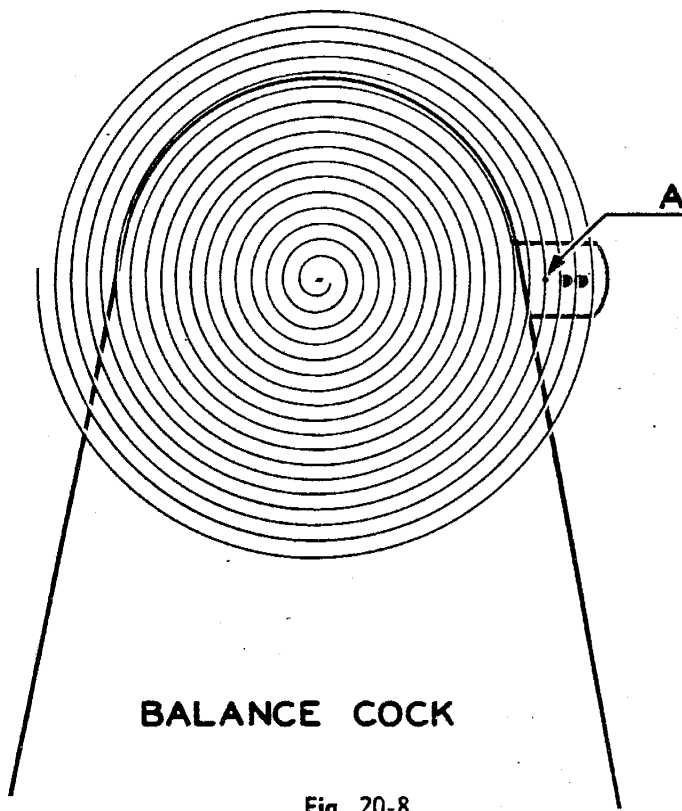
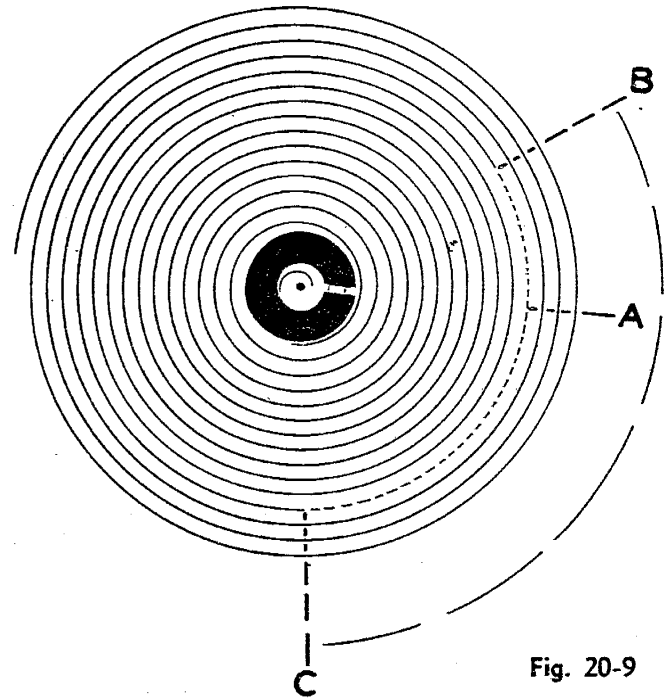

Fig. 20-8
Fig. 20-9
2. Select hairspring and place in position over inverted balance cock as in figure 20-8. The theoretical center of the hairspring should be over the center of the balance hole jewel.
3. The desired point of vibration should be about one coil inside the regulator pins, A of figure 20-8. The hairspring from this point to the collet should have approximately 11 or 12 coils.
5. Grasp hairspring somewhere along a section of coil B-C, figure 20-9, which corresponds to either side of desired vibration point A in figure 20-8 and 20-9, and place in vibrating stand.